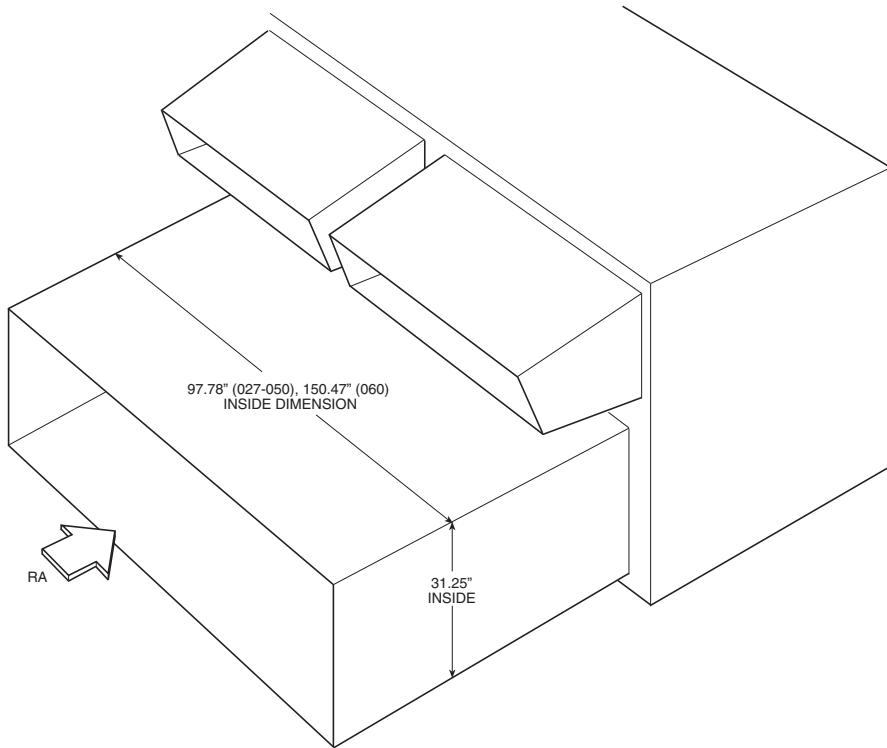

Fig. 42 — Side Return Duct Dimensions
3. Run the return air ductwork up to the openings. One single duct is recommended to connect to the unit over the return air openings. See Fig. 42. The return duct must incorporate a minimum $\frac{3}{4}$ -in. flange for connection to the unit cabinet. The unit does not have duct flanges for this conversion.
Side Supply and Return Units (50A4,A5) with Field-Installed Power Exhaust in Return Duct — Space must be available in the return duct to mount the power exhaust fan (gravity relief) modules. Dimensions and suggested locations are shown in Fig. 42. These instructions are a guideline and not a comprehensive procedure. The design contractor must provide some design initiative.
may be run in the return duct as shown in Fig. 42 or externally in conduit. A service access panel will be needed near each power exhaust fan.